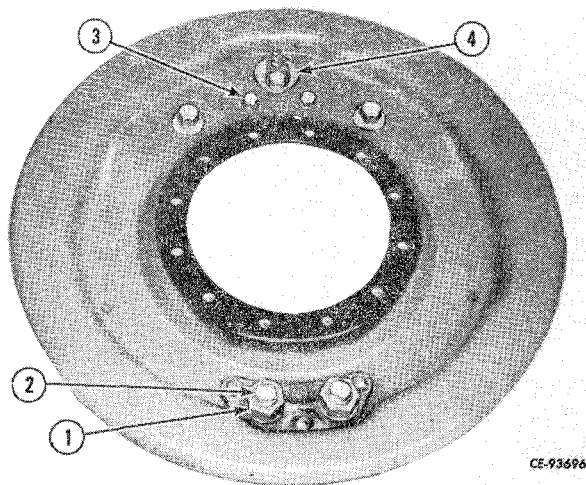

Figure 13-5
Remove the nut (1, Fig. 13-5) and unscrew the anchor pin (2). Remove the cap screws (3) that secure the cylinder (4) to the backing plate.
Install the cylinder (4, Fig. 13-5) on the backing plate and secure with the cap screws (3). Install the anchor pins (2) and secure with the nut (1).